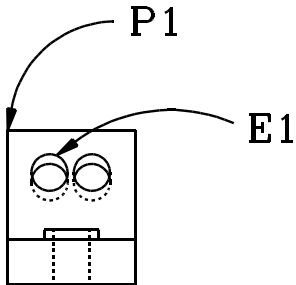

Figure 37
114. Click on E1 (the left side top ellipse). (See Figure 37.)
115. Click on point P1 (the upper left corner of the rectangle). (See Figure 37.)
- 119. Click on E1 (the left side top ellipse), as shown in Figure 37.
- 120. Click on point P1 (the upper left corner of the rectangle), as shown in Figure 37.